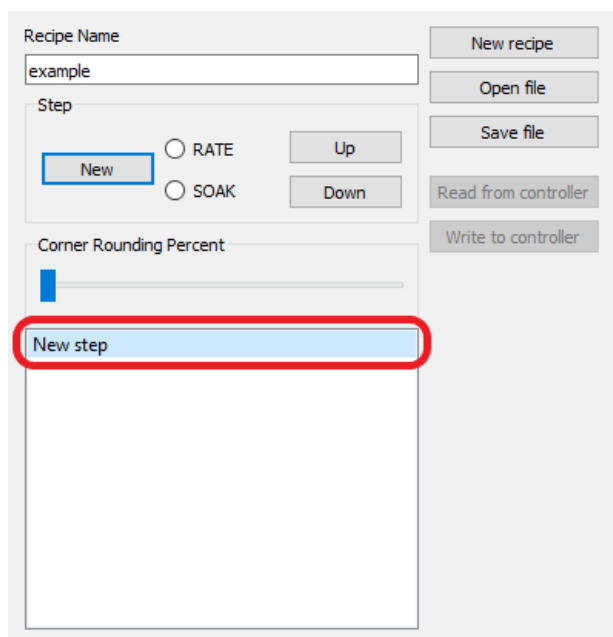

Figure 72: Recipe Editor – First Step
3. Click on "New Step" in the 'Step List' in the lower left corner of the window as highlighted in Figure 72 below to program the first step in the recipe. It will turn blue once selected to highlight which step you are modifying.